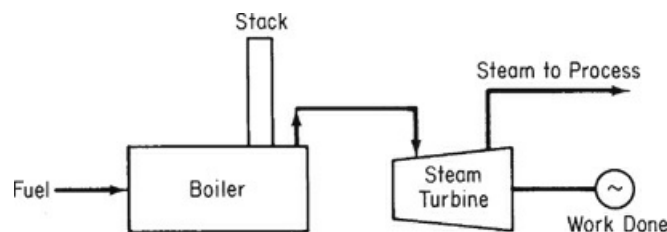

Figure P8.6.12
- Cogeneration (generation of steam for both power and heating) involves the use of gas turbines or engines as prime movers, with the exhausted steam going to the process to be used as a heat source. A typical installation is shown in Figure P8.6.12.